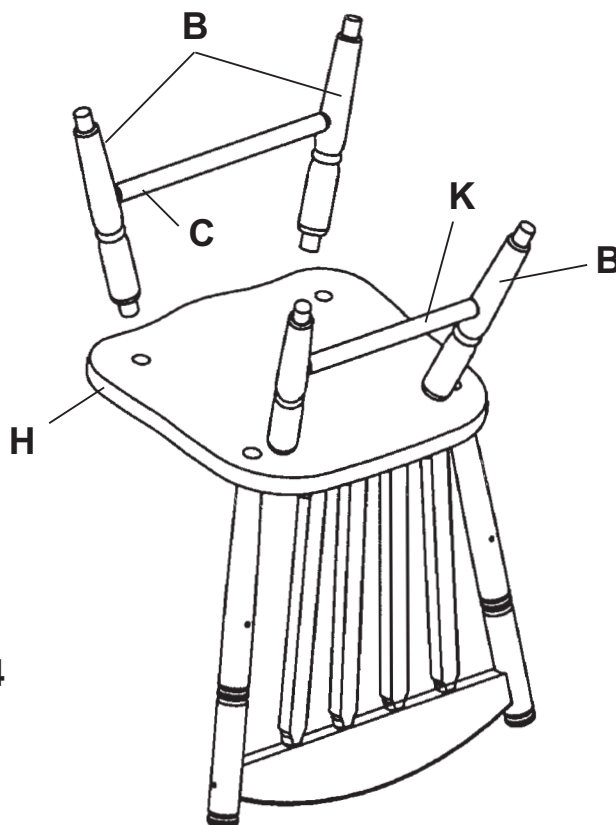

Fig. 4
4. With the Seat (H) laying face down on a protected surface, spread glue evenly in the four leg holes in the bottom of the seat and insert the pair of legs with the Long Front Stretcher (C) in the two front holes. The stretchers must face side to side and be on the end farthest from the seat. Repeat for the other pair of legs with the Short Back Stretchers (K). See Figure 4.